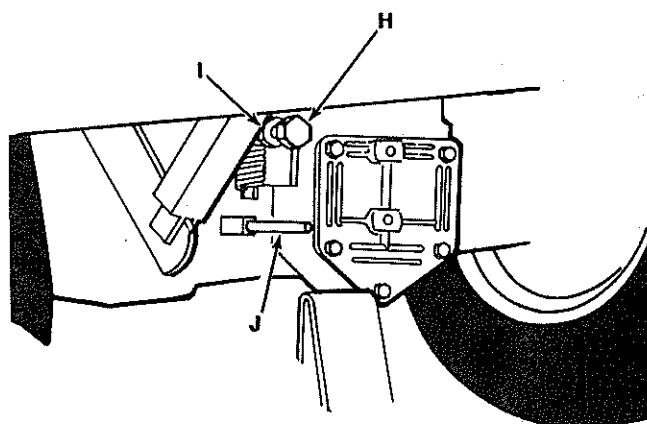

Figure 2-12
- a. Securely block up rear of tractor so that rear wheels clear the ground. Loosen jam-nut (I, Figure 2-12).
- b. Adjust screw (H), just above the free wheeling lever (J), until the wheels do not rotate in either direction. Tighten jam-nut (I) in place.